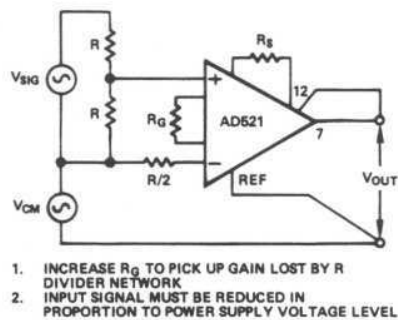

Figure 4. Operating Conditions for $V_{IN} \approx V_S = 10V$
4. Do not exceed the allowable input signal range. The linearity of the AD521 decreases if the inputs are driven within 5 volts of the supply rails, particularly when the device is used at a gain less than 1. To avoid this possibility, attenuate the input signal through a resistive divider network and use the AD521 as a buffer, as shown in Figure 4. The resistor $R/2$ matches the impedance seen by both AD521 inputs so that the voltage offset caused by bias currents will be minimized.